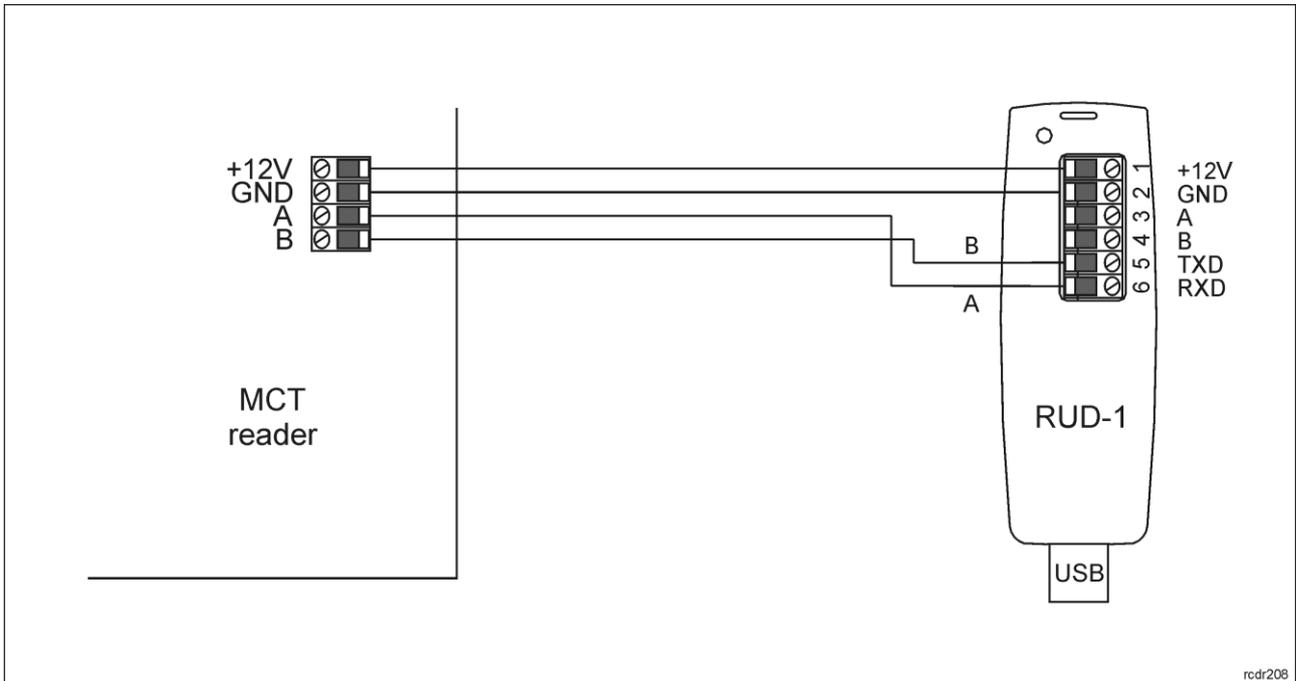

Fig. 8 Connection to RUD-1 interface (firmware update).
The update requires connection of device to computer with RUD-1 interface (fig. 8) and starting RogerVDM software. The latest firmware file is available at www.roger.pl.
2. Connect the device to RUD-1 interface (fig. 8) and connect the RUD-1 to computer's USB port. Orange LED SYSTEM will pulsate.